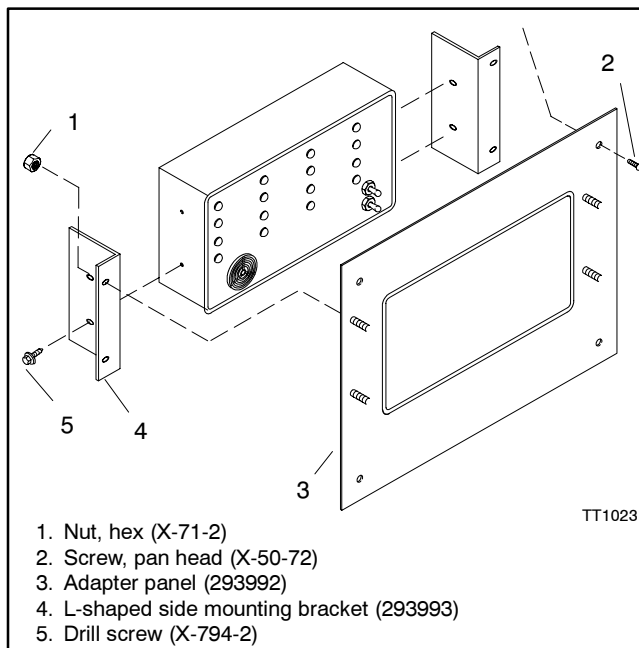

Figure 9 Flush-Mount Remote Annunciator Installation
- 7.3.1 Reassemble the front panel to the back panel using two drill screws (X-794-2). See Figure 9.